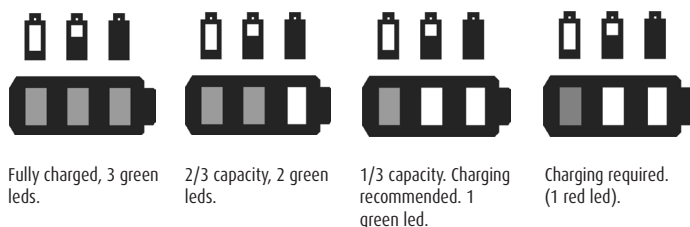

Figure 32. Battery indication hand control.
- A battery indicator is displayed on the hand control (See figure 32).